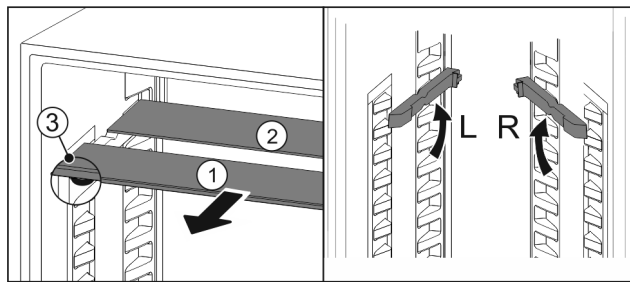

Fig. 24
- Pull the glass panels out Fig. 24 (1) from the front, one at a time.
- ▷ The glass panel Fig. 24 (1) and trim strip are at the front.
- ▷ The stops Fig. 24 (3) point down.